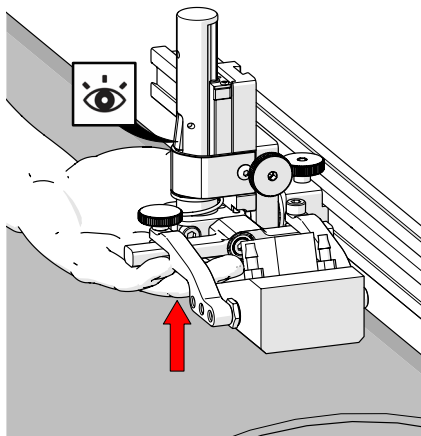
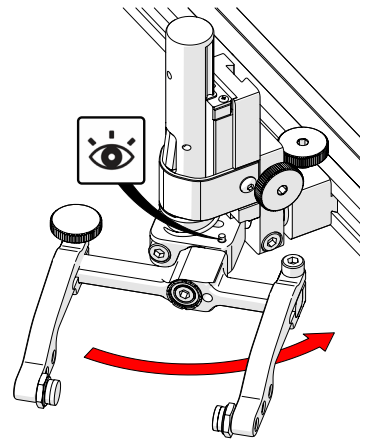

Fig. 38 - Latch probe holder
Fig. 44 - Stop post locates 90°
1. Ensure the probe holder is in the latched upper position. Lift the probe holder until the latch is fully exposed and snaps out to lock (Fig. 38).
1. Ensure the probe holder is in latched, upper position (*Fig. 38*).
To return the transverse adjustment to neutral (90°). The probe holder must be in the latched, upper position (*Fig. 38*). Rotate the yoke until the stop post contacts the base of the probe holder (*Fig. 44*). Then tighten the transverse adjustment screw.
1. Ensure the probe holder is in latched, upper position (Fig. 38).